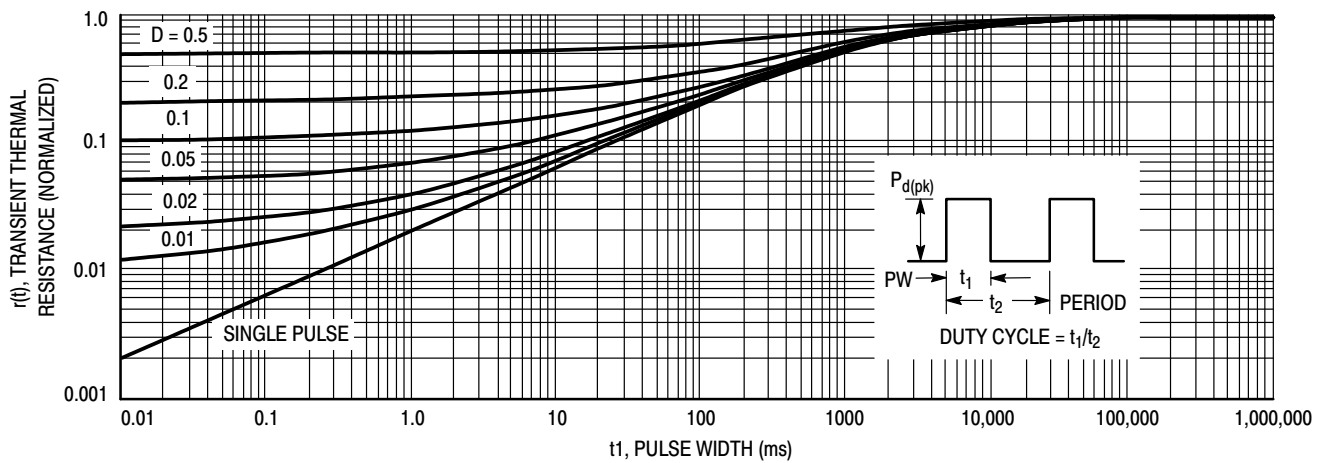

Figure 12. Transient Thermal Response for MDC3105LT1
Figure 12 of the MDC3105 data sheet plots its transient thermal resistance, $r(t)$ as a function of pulse width in ms for various pulse train duty cycles as well as for a single pulse and illustrates this effect. For short pulse widths near the left side of the chart, $r(t)$, the factor, by which the continuous duty thermal resistance is multiplied to determine how much the peak power rating can be increased above the average power rating, approaches the duty cycle of the pulse train, which is the expected value. However, as the pulse width is increased, that factor eventually approaches 1.0 for all duty cycles indicating that the pulse width is sufficiently long to appear as a continuous duty condition to this device. For the MDC3105LT1, this pulse width is about 100 seconds. At this and larger pulse widths, the peak power dissipation capability is the same as the continuous duty power capability.
To use Figure 12 to determine the peak power rating for a specific application, enter the chart with the worst case pulse condition, that is the max pulse width and max duty cycle and determine the worst case $r(t)$ for your application. Then calculate the peak power dissipation allowed by using the equation,
Thus for a 20% duty cycle and a PW = 40 ms, Figure 12 yields $r(t) = 0.3$ and when entered in the above equation, the max allowable $Pd(pk) = 390$ mW for a max $T_A = 85^{\circ}C$.
2. For pulsed operation, use the Transient Thermal Response of Figure 12 and the instructions with it to determine the maximum limit on transistor power dissipation for the desired duty cycle and temperature range.